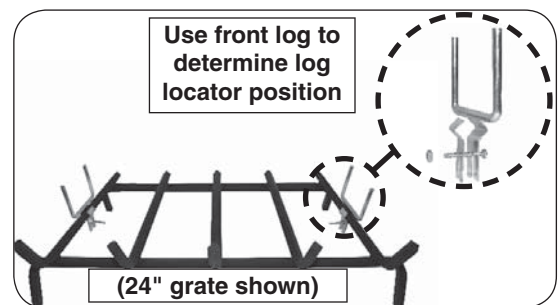
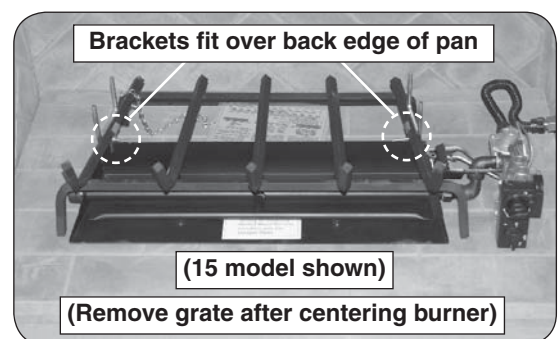
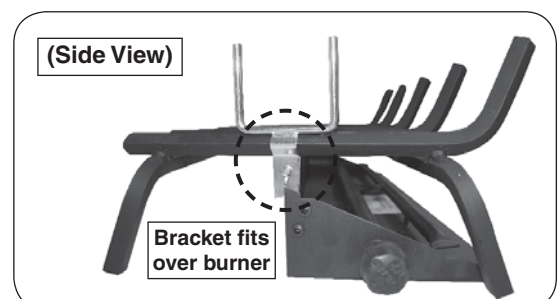

Fig. 17-2 Attach log locators to grate
Fig. 17-3 Position grate
Fig. 17-4 Grate placement detail
1. Locate the grate (outside of the fireplace) and attach the log locators to the 2 outer bars of the grate using the provided screws and nuts (see Fig. 17-2 and Fig. 17-4). The log locators should be loosely positioned toward the middle of the outer bars and oriented as shown in Fig. 17-2. Temporarily place the front log at the front of the grate, to correctly determine the log locator position. Slide the log locators up against the rear of the front log. Tighten the log locators in place. Remove the front log.
2. Position the grate over the burner pan (in fireplace) so the log locator brackets fit over the back edge of the pan to lock it in position. Ensure the assembly is centered from left to right. See Fig. 17-3 and Fig. 17-4.